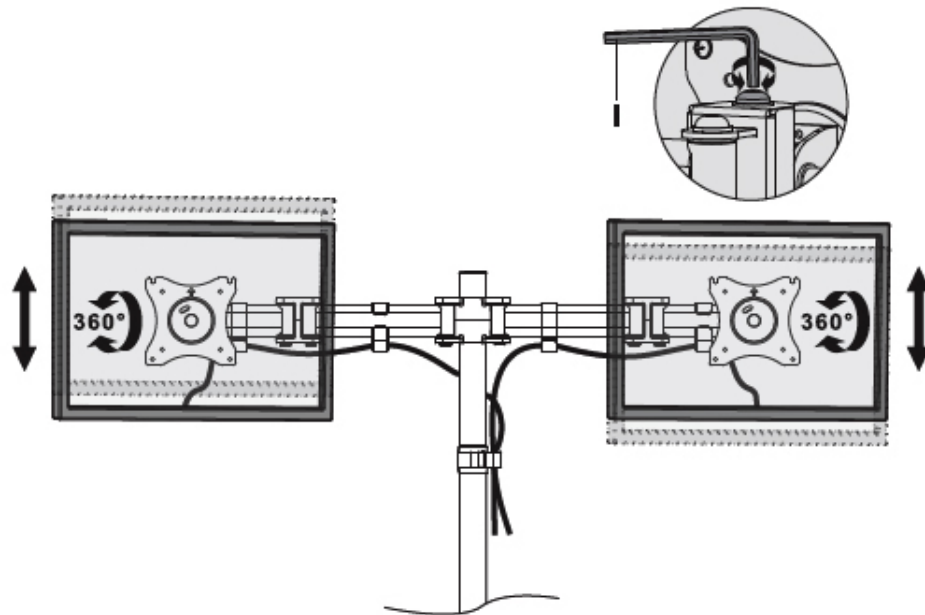

Figure 11
3. Adjust the height of the monitors. Turn the fine tune height adjustment screw using the 5mm Allen Key (I). Arrange the cables through the cable management clips, see **Figure 11**.